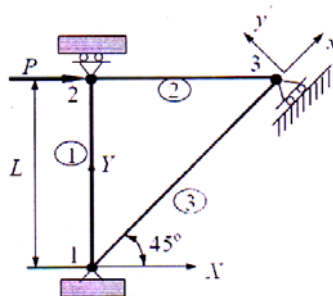

Figure 1
b) For the plane truss as shown in figure 1, $P=1000\text{kN}$, $L=1\text{m}$, $E=210\text{ GPa}$, $A= 6.0 \times 10^{-4}\text{ m}^2$ for element 1 and 2, $A=6\sqrt{2} \times 10^{-4}\text{ m}^2$ for element 3. Determine displacement and reaction solutions. [10]